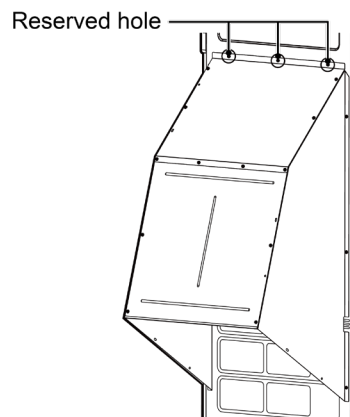

Fig. 3.13
(2) Reserve the locating hole as is shown in Fig 3.13. Drill 3 screw holes on the side plate of the unit with the drill  $\Phi 3.8$ , please pay attention to the drilling depth to avoid damaging the components nearby, otherwise, the unit might lose efficacy. Fix it with 3 screws.